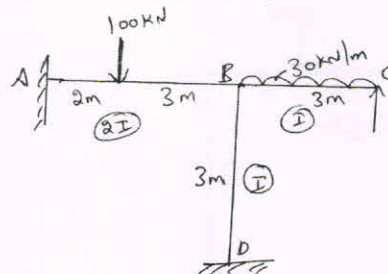

Fig.Q10
- 10 Analyze the portal frame shown in Fig.Q10 by stiffness matrix method. Draw BMD.